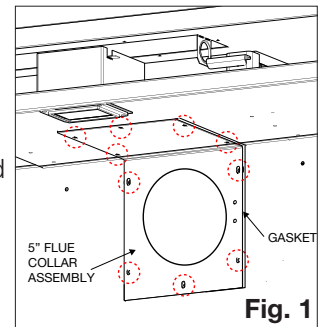

Fig. 1
- Secure the flue collar assembly, gasket and rear exit shield using the 10 hex head 3/4" black screws (**Fig. 1**).